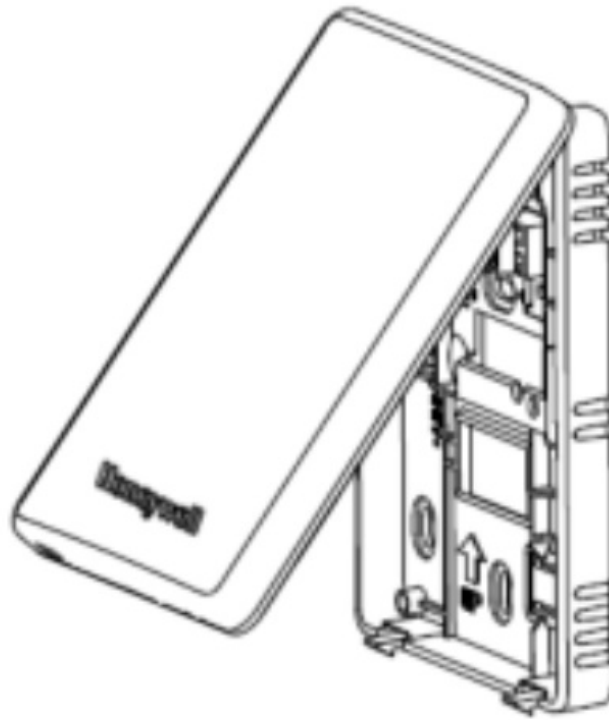

Figure 1. Removing the module from its sub-base
4. When reinstalling the sensing module on the subbase, a position is depicted in Figure 1. Swing down module until engaged with lower retaining tabs.